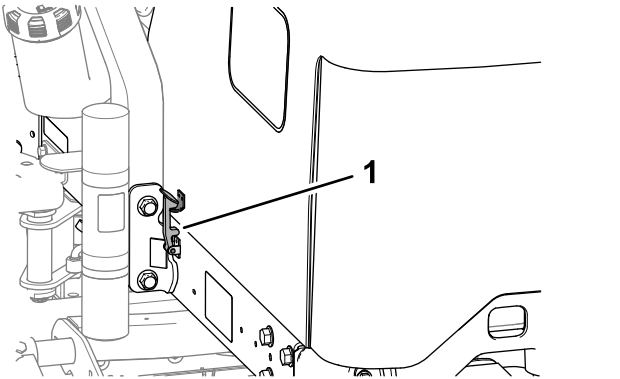

Figure 43
- 2. Rotate the hood up and back (Figure 43).